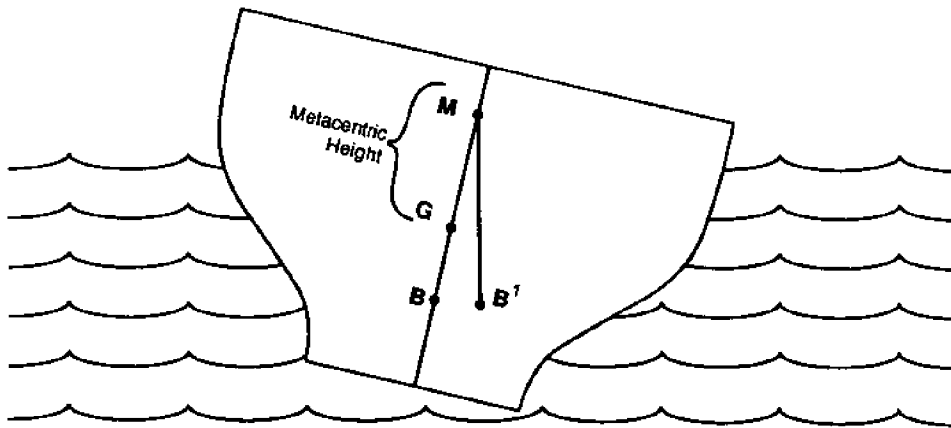

Figure 1 M, Metacenter of a boat; G, center of gravity; B, center of buoyancy; B1, Center of buoyancy when boat is displaced.
The rolling-period test involves rolling your vessel until it is rolling well and measuring the time it takes for the vessel to roll one complete period from one side to the other and back again. The metacentric height of your vessel is mathematically related to this roll period. (See figure 1.) The metacentric height is the distance from the center of gravity to the intersection of two vertical lines (m), one of which passes through the center of buoyancy (B) when the ship is in equilibrium, the other through the center